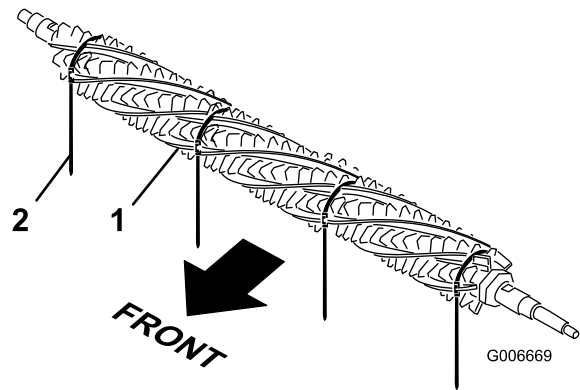

Figure 38
1. From one side of the groomer reel, slide a brush into each groove around the full length of the groomer reel (Figure 38).